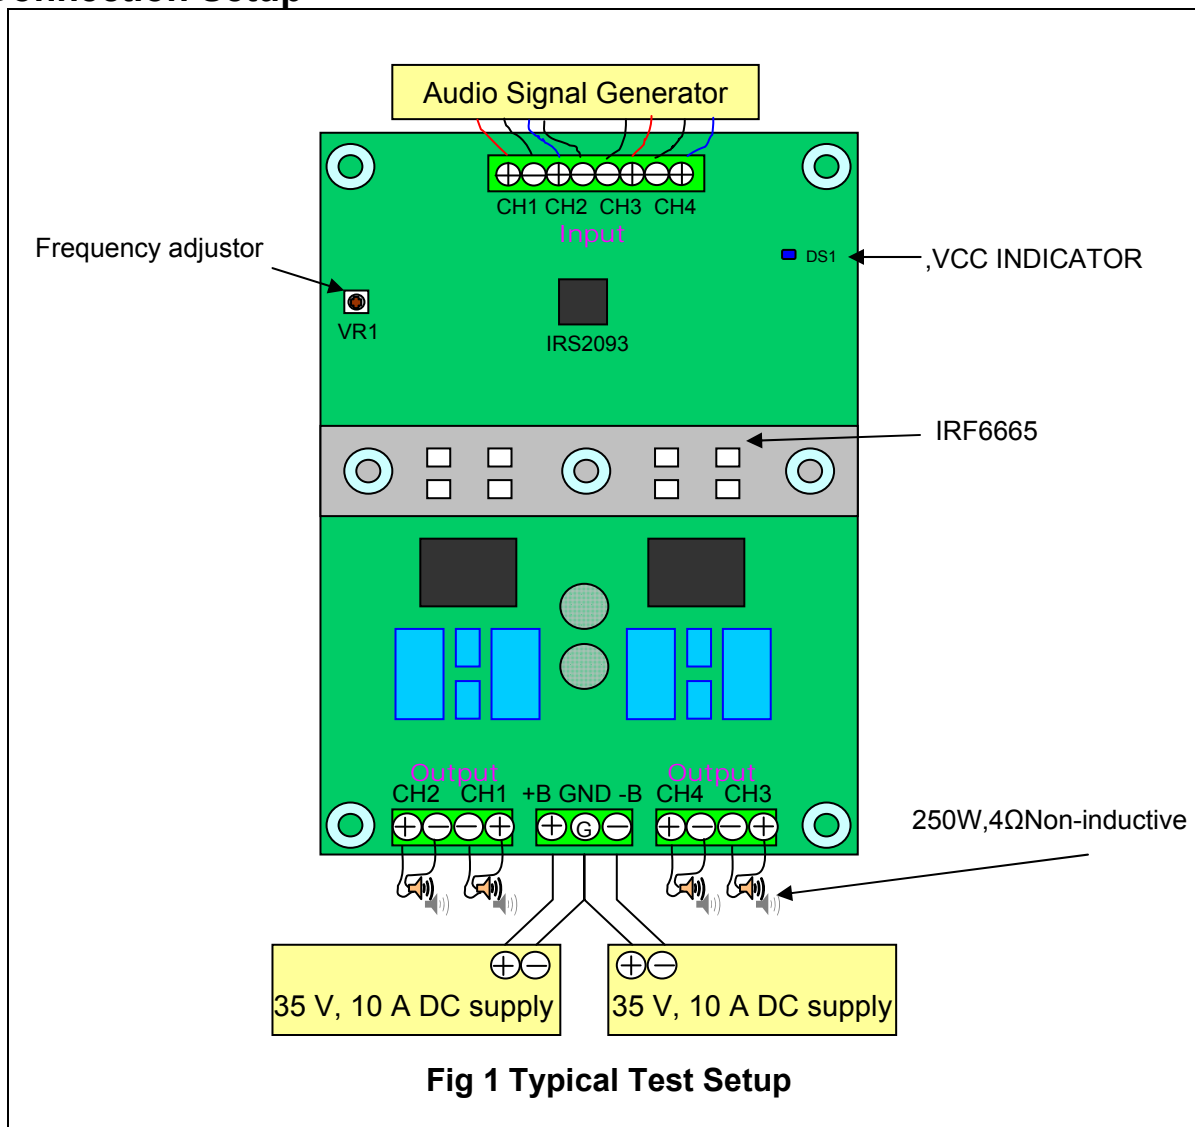

Fig 1 Typical Test Setup
1. Connect 4 Ω -200 W dummy loads to 4 output connectors (P2 and P3 as shown on Fig 1) and an Audio Precision analyzer (AP).
2. Connect the Audio Signal Generator to CN2 for CH1~CH4 respectively (AP).
5. Connect the dual power supply to P1. as shown on Fig 1